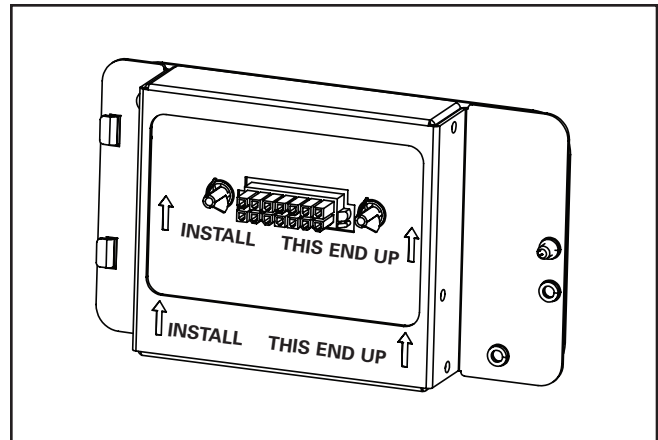

Figure 2
4. Bring in the new plug-in driver box assembly while ensuring the INSTALL THIS END UP arrow points upwards (Figure. 2) and rest it on the housing.